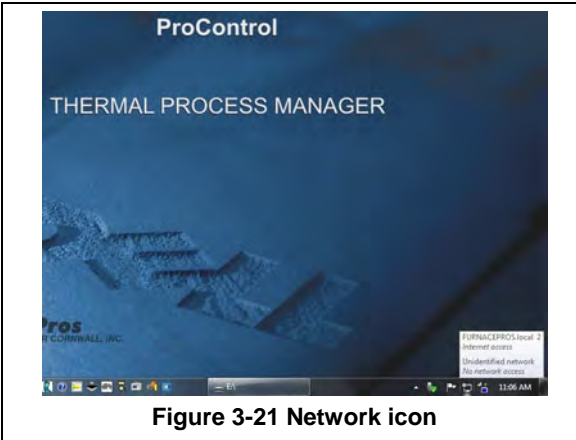
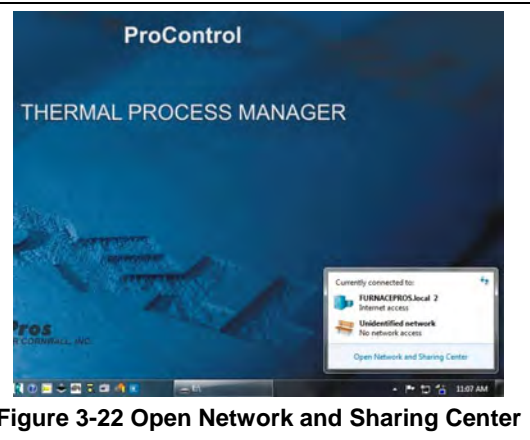

Figure 3-21 Network icon
Figure 3-22 Open Network and Sharing Center
- a. From the desktop, click on the network icon on the lower right hand side of the screen, Figure 3-21. Click Open Network and Sharing Center, Figure 3-22.